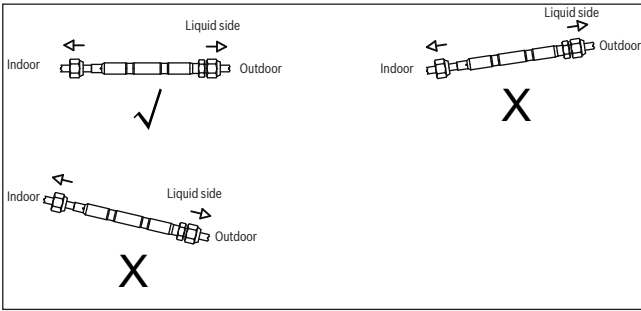

Fig. 25.
- Refer to the diagram when installing. (See Fig. 25)